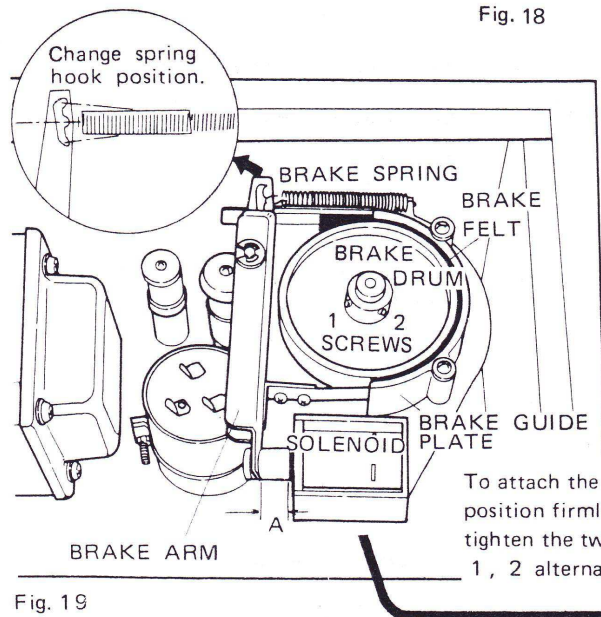

Fig. 19
- Is A in Fig. 19 12.8mm when the solenoid is not operating?
#### ● Adjustment (Figs. 19, 20)